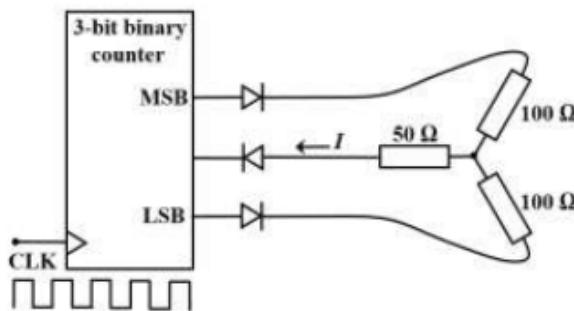

Fig. 5.4
4. For the 3-bit binary counter shown in Fig. 5.4, the output increments at every positive transition in the clock (CLK). Assume ideal diodes and the starting state of the counter as 000. If output high is 1V and output low is 0V, find the current I (in mA) flowing through the 50Ω resistor during the 5th clock cycle (up to one decimal place).